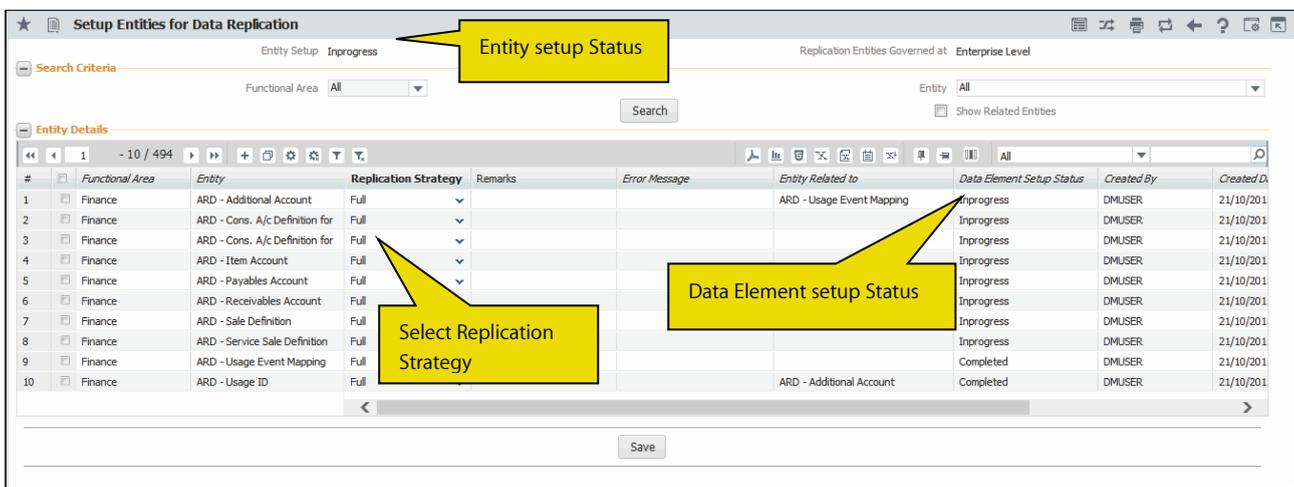

Figure 2.3 Setting entities for data replication
1. Select the **Setup Entities for Data Replication** activity under the **Central Data Replication Configurator** business component. The **Setup Entities for Data Replication** page appears. See *Figure 2.3*.